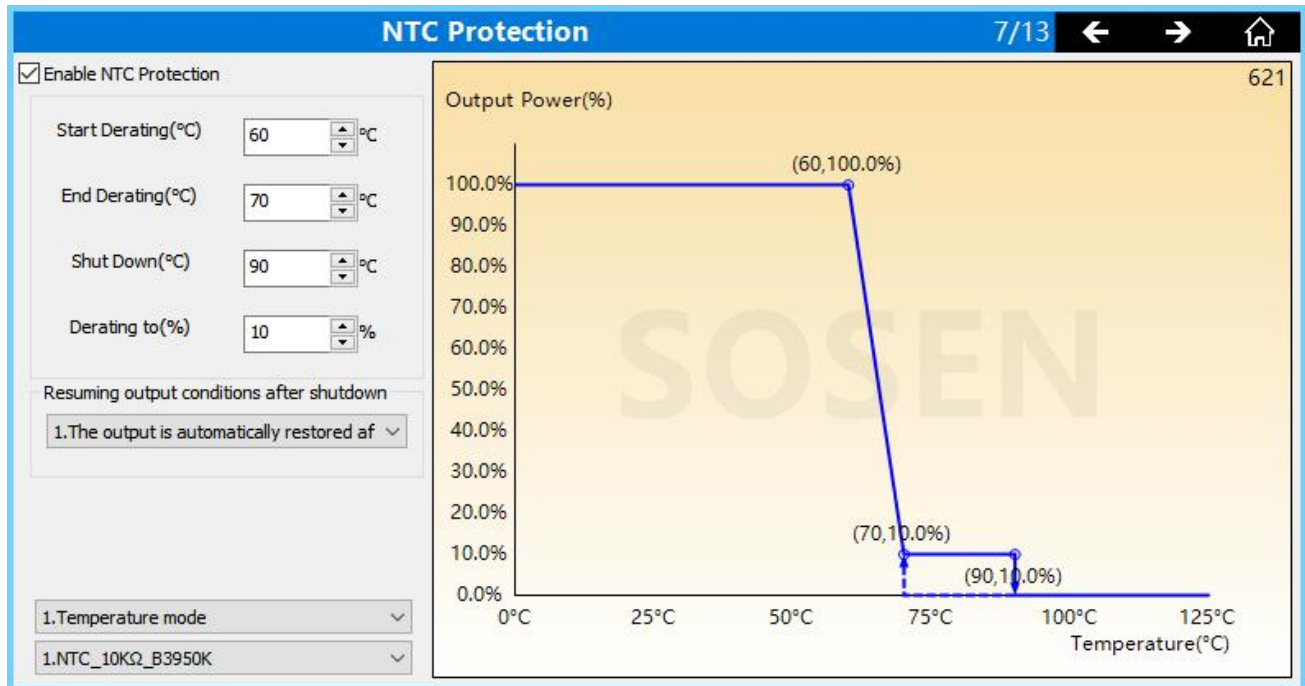

Figure 1
a. The NTC function supported by the D4i model is shown in the 621 Function screen shown in Figure 1. Models that support this feature are such as the 22PA-32F.
b. Operation Logic: According to the parameter setting shown in Figure 1, as shown in the blue line, when the temperature is lower than 60°C, the output power is 100%; when the temperature is greater than 60°C and less than 70°C, the output power runs according to the slanting line between 60°C and 70°C, and the output power will be accompanied by this lowering and raising as the temperature increases and decreases; when the temperature is greater than 70°C, the output power will be lowered to 10%, and keep at 10%; when the temperature is greater than 90°C, the output power will be turned off. ; when the temperature is greater than 90°C, the output will be turned off. Alternatively, setting the shutdown temperature to less than or equal to the temperature at which the end derating occurs will turn off the shutdown function and neither shutdown.